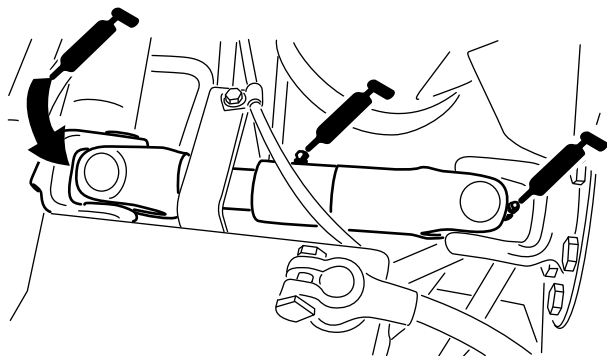

Figure 30
- Pump drive shaft U-joint (3) (Figure 30)